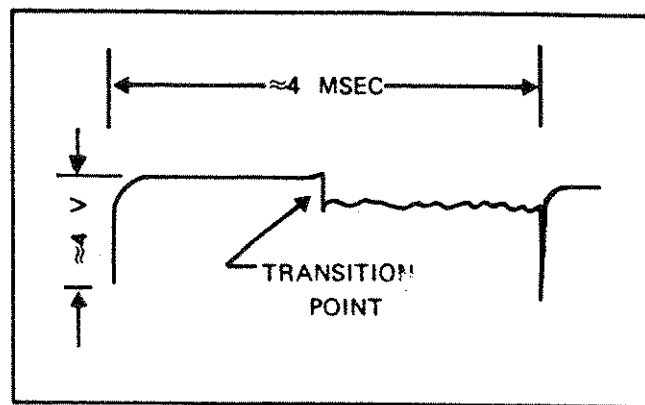

Figure 4-9. CHOPPER WAVEFORM
- Alternately adjust R43 counter-clockwise and R34 as necessary to obtain maximum squareness of the chopper waveform without a spike at the transition point. When correctly adjusted, waveform should appear as shown in Figure 4-9.